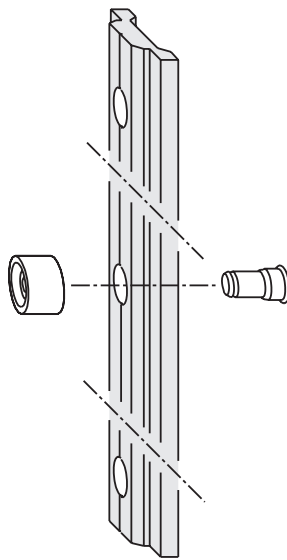

Fig. 2
Sash	Press the roller bolt (828) through the hole (Ø 5.2) in the S2 operating rod from behind and insert the locking roller (827) (Fig. 2).